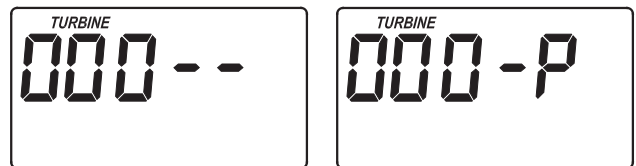

FIG. 27
1. Press and hold for 3 seconds the SELECT button, until one of the screens shown in Figure 27 is displayed. If the valve is in service, backwash or aspirate position (observe markings on the valve cam), the display should show "000 - -", meaning the position switch is open. When the valve is moving, the display should show "000 - P", meaning that the position switch is closed.